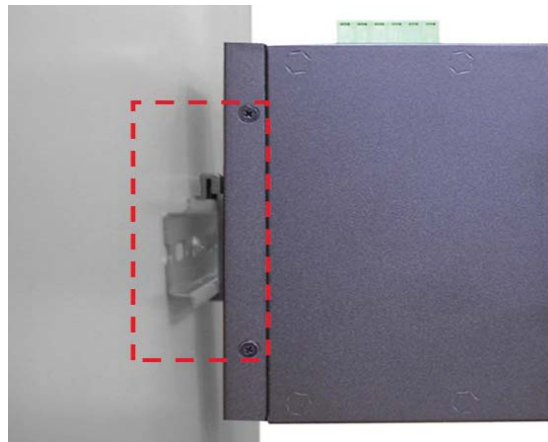

Figure 18. Stable the Switch on DIN-Rail
4. Lightly pull down the bracket on to the rail as shown in figure 18.